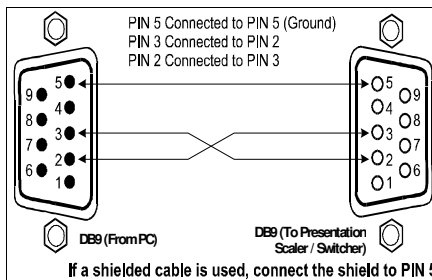

Figure 4: Connecting the PC
- Connect the RS-232 DB9 port on your PC to the RS-232 DB9 rear panel port on the **VP-740** unit, forming a cross-connection¹, as Figure 4 illustrates